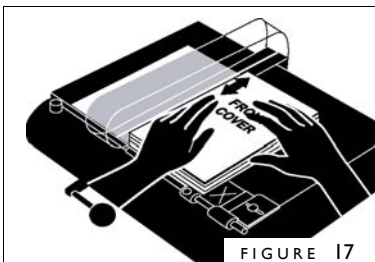

FIGURE 17
5. With the book spine pushed fully and firmly to the left, fold the cover over your book block (figure 17). Starting at the middle, rub down back and forth to secure the cover to the adhesive.